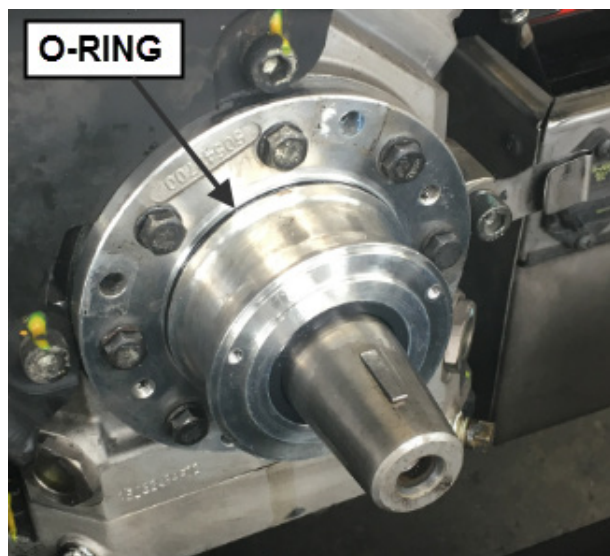

FIGURE 40: O-RING LOCATION ON SEALING COVER
12. Install a new O-Ring on the sealing cover front face (figure 40).